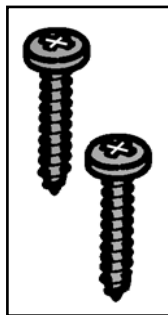

Fig. 3
- No. 2 chipboard screws 4.5×16 mm for front mounting of the packaging machine to the unit (Fig. 3).